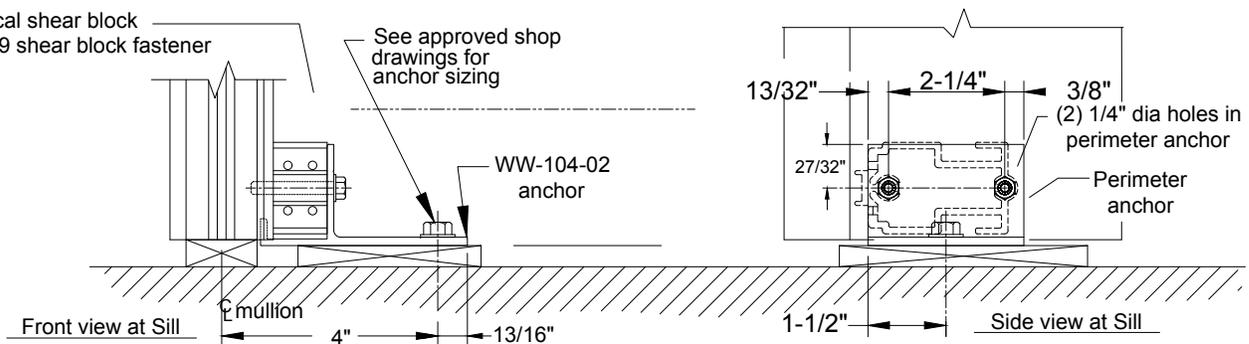

Figure 7
- 2.1.2 Install verticals plumb and level. Place shims under vertical mullion at sill to evenly distribute dead load from wall. Install pipe sleeve anchor at head to allow for thermal movement of the vertical mullions. SEE FIGURE 7 page 10.
- 2.1.4 Attach shear blocks to all vertical members. **SEE FIGURE 7, Page 10** for proper orientation on mullion. For installations using the shear block anchors, attach to head and sill shear block. **NOTE:** Depending on the end reactions, either the shear block anchor or tee anchors can be used to anchor the wall. **See page 10** for shear block anchor load capacity.